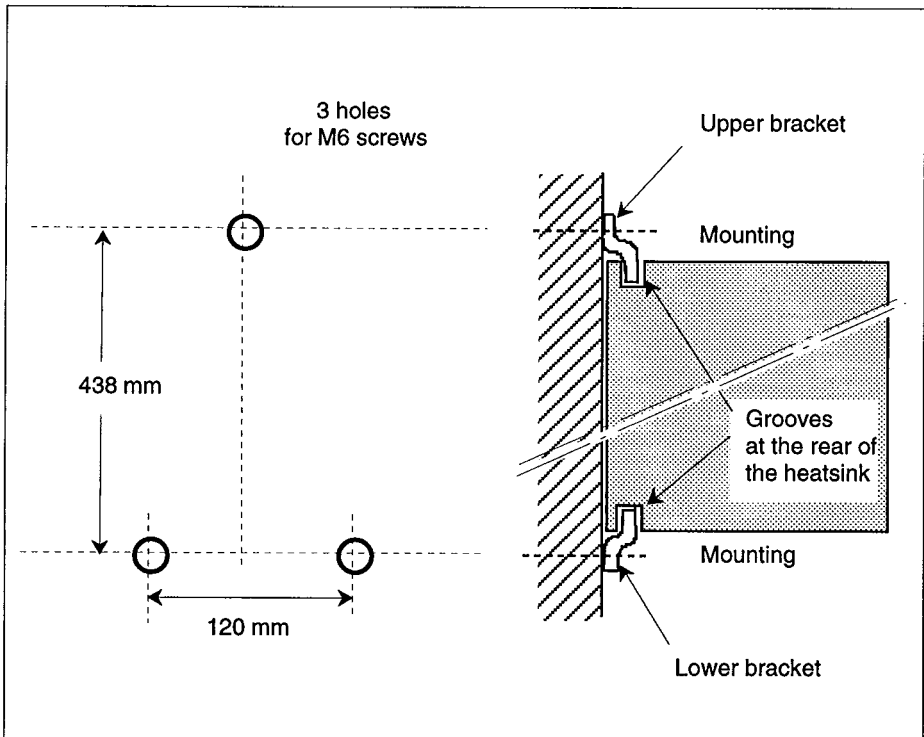

Figure 2-3 TU1450 unit drilling and mounting values.
- Fix the two brackets on the panel using the **M6** screws, while observing the drilling values (figure 2-3). The lower flange must be fixed at both ends. The upper bracket is fixed with a central screw through the oblong hole.